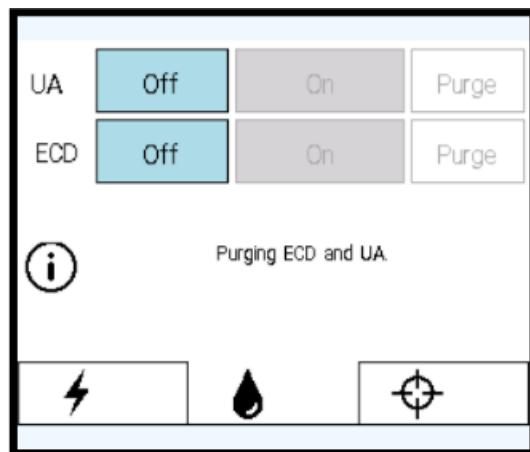
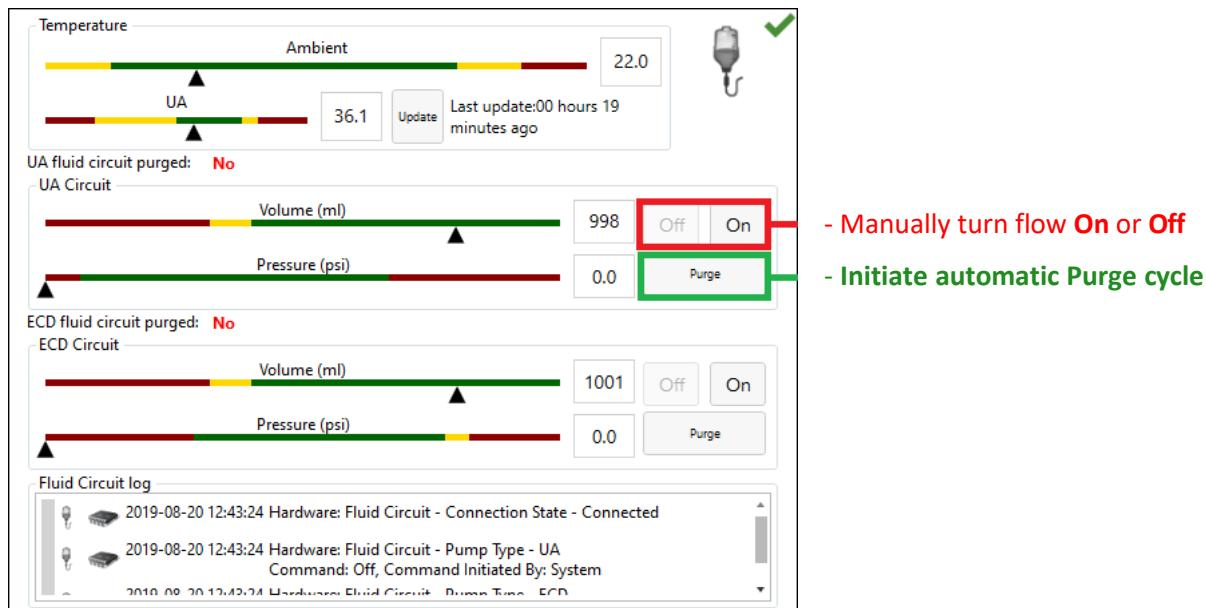

Figure 11: PSIB Display - Fluid Circuit tab
Figure 12: Fluid Circuit information box in TDC Setup workspace
5. On the PSIB display, choose the **Fluid Circuit** tab (Figure 11) and **Purge** the UA and ECD fluid circuits. You can also do this from the TDC by pressing **PURGE** beside the fluid circuit (FC) quadrant (Figure 12).
- a. If the purging cycle ends before completing the steps in this process, return to the PSIB display (or TDC window) and manually turn the flow on by clicking **On**. The fluid pumps will remain on until you click **Off** (*Figure 12*).